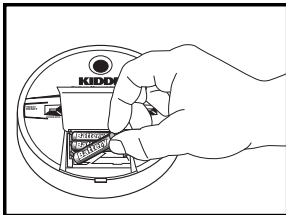

Figure 4
2. Remove the old batteries and properly dispose of them as recommended by the manufacturer (see figure 4).